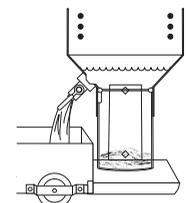

FIGURE 17
4. **! DANGER:** Drain hot cooking oil only into metal containers. Place container or shortening tender under drain valve and open valve by flipping handle down. Allow cooking oil to cool before further handling. (Figure 17)